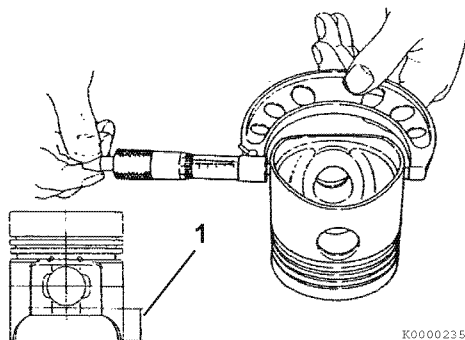

Figure 6-66
4. Measure the diameter of the piston skirt at 90° to the wrist pin bore as shown (**Figure 6-66**). Measurements must be taken at a specified distance (1, **Figure 6-66**) from the bottom of the piston, based on engine model. Record the measurements. See *Piston* on page 6-9 for specifications.